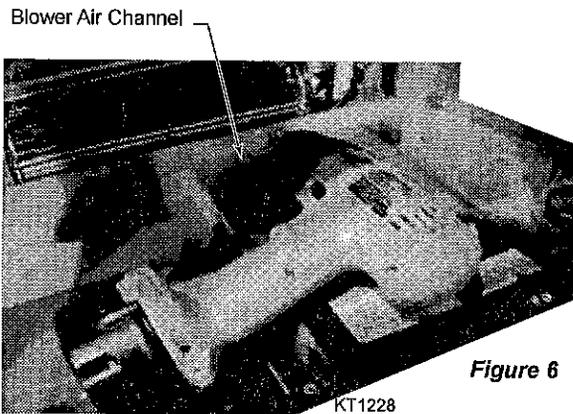

Figure 6
1. **LHEC models only:** Slide the new blower wires through the hole in the side of the blower air channel and connect to the blower through the opening in the rear of the insert. Reinstall the blower air channel. *Figure 6*. Pull the excess wire through the hole in the side of the channel and install the strain relief previously removed when taking the channel out.